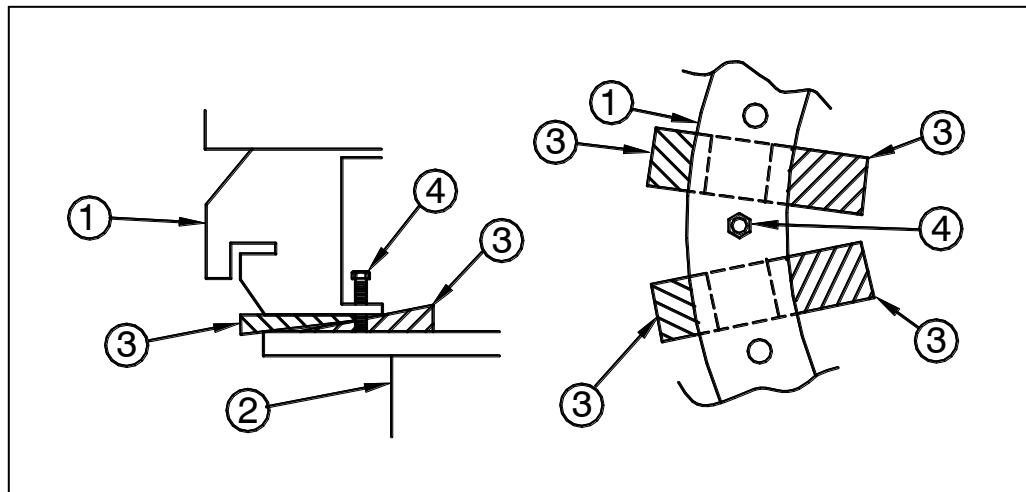

Figure 2.5b
- c. Remove, clean and lubricate the jackscrews in the drive base, then reinstall the jackscrews. See Figure 2.5b.